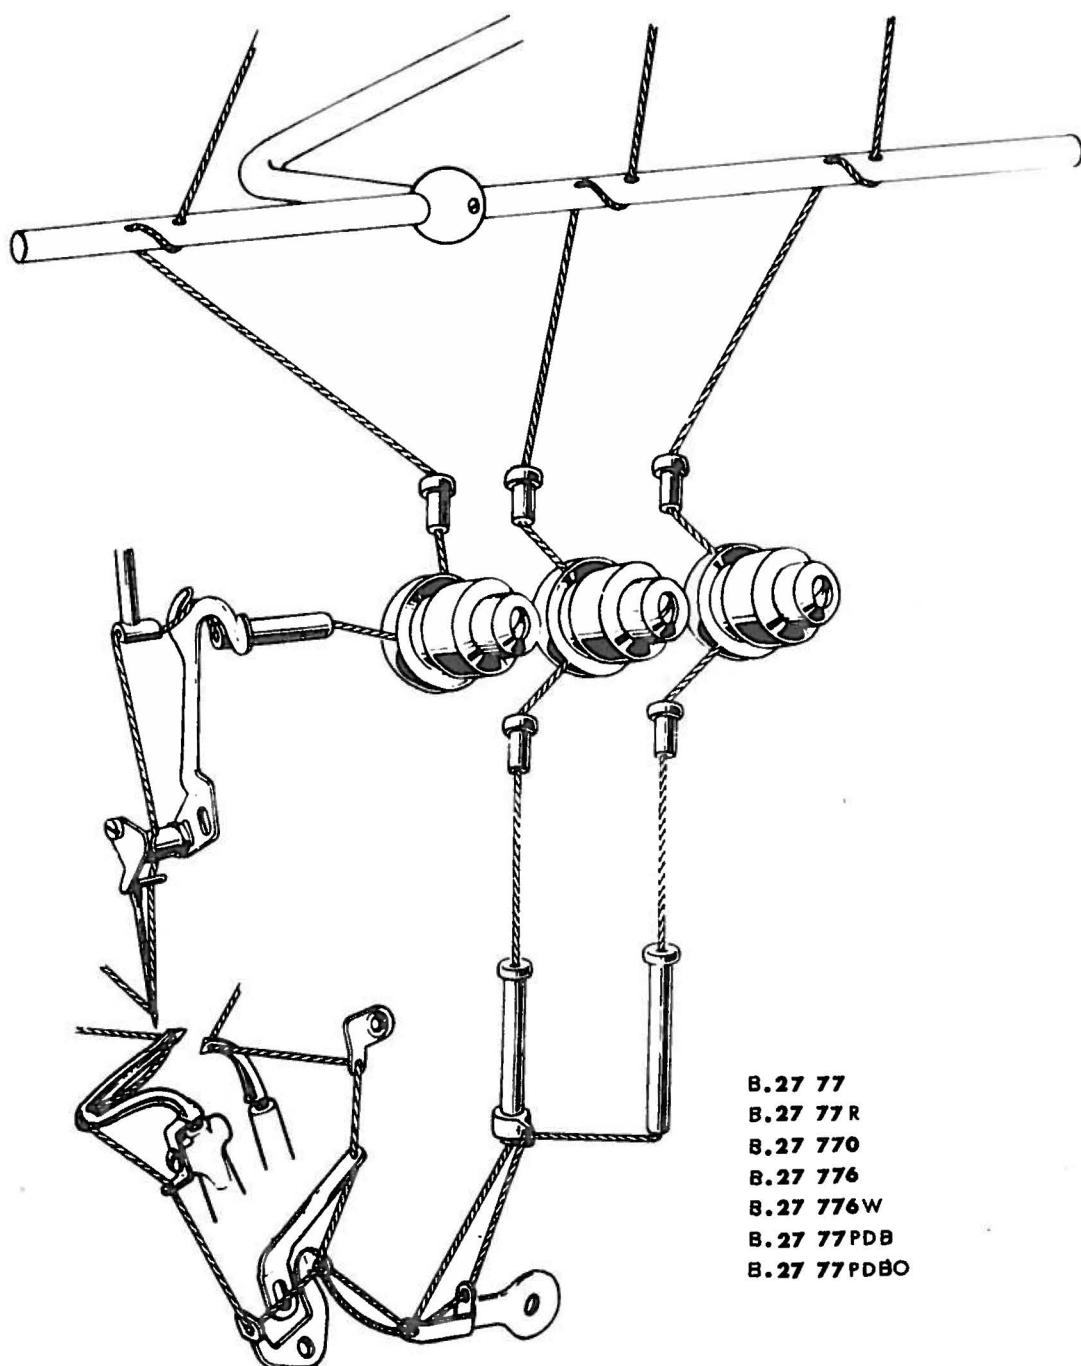

fig. 18
- Press down on lever B (fig. 22) and swing out presserfoot holder D (fig. 18).
- With presserfoot arm D (fig. 18) locked in position, turn handwheel clockwise till needle point enters presserfoot.